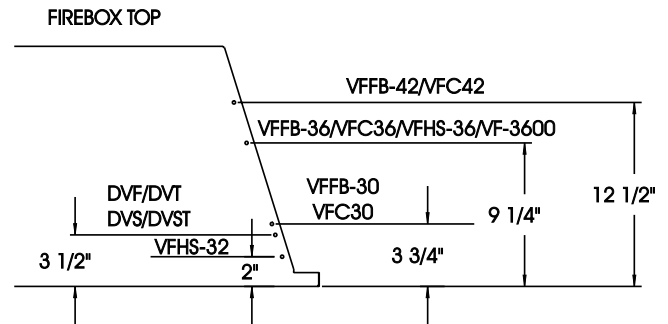

Figure 1
6. Insert blower support into mounting tabs on fireplace bottom for 30 model. **Attention:** The 36/42 models do not have mounting tabs on fireplace bottom. Use front set of clearance holes on blower support for 30 model. The 36/42 models use rear set of clearance holes on blower support as you place blower support onto two (2) weld studs at rear of fireplace bottom. Attach two (2) wing nuts onto weld studs.
7. Place switch bracket onto two (2) weld studs located at front of the fireplace bottom. Attach two (2) wing nuts onto weld studs.
9. Refer to Figure 1 for mounting hole location on right side of firebox top that applies to your appliance. Measure from front edge of firebox top to determine mounting hole location. Remove appropriate screw from firebox top.